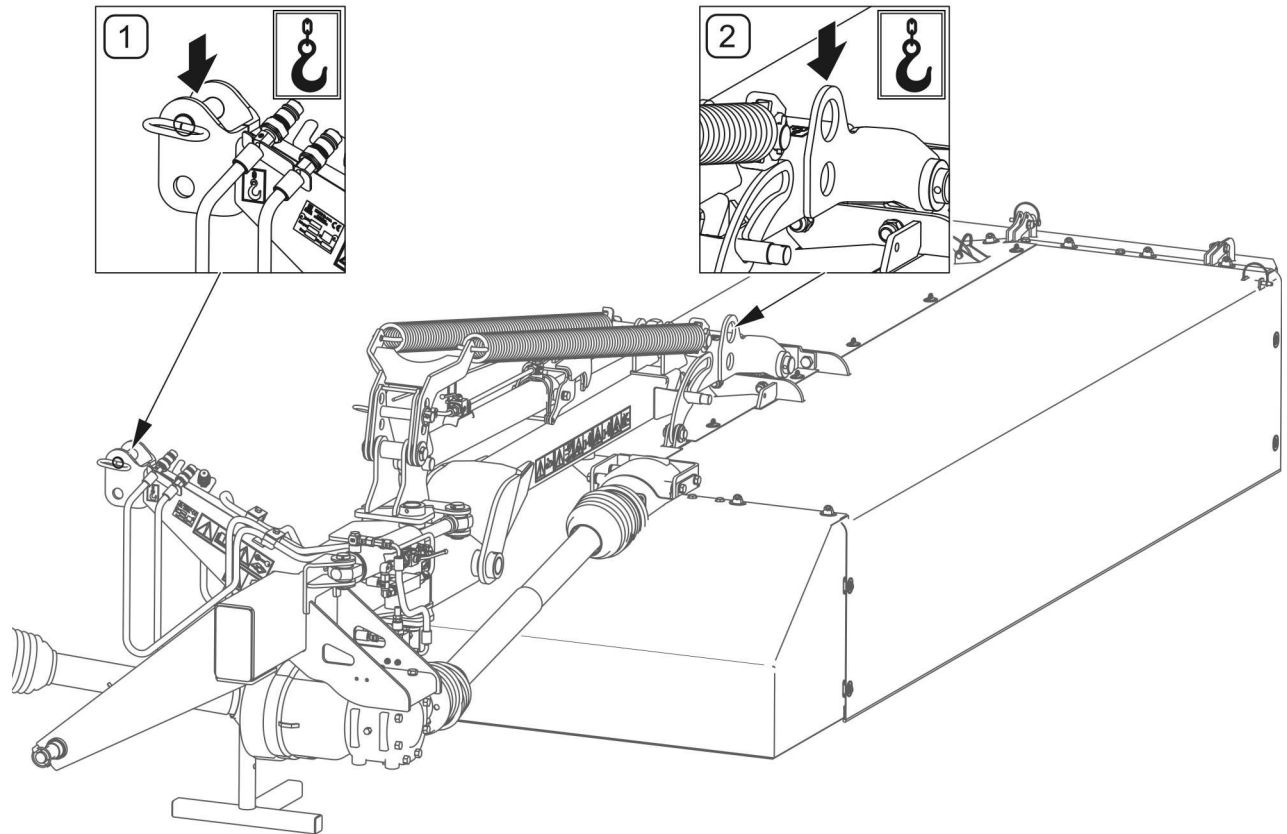

FIG. 1.2A Transport lugs
The machine should be attached to lifting equipment in places intended for this (FIG. 1.2A), i.e. two central connection pin (1) and transport lug (2). When lifting the machine take particular care due to the possibility of tipping over the machine and the risk of injuries from protruding parts. To keep lifted machine in the correct direction it is recommended to apply additional guy ropes. During the loading work particular care should be taken not to damage paint coating.